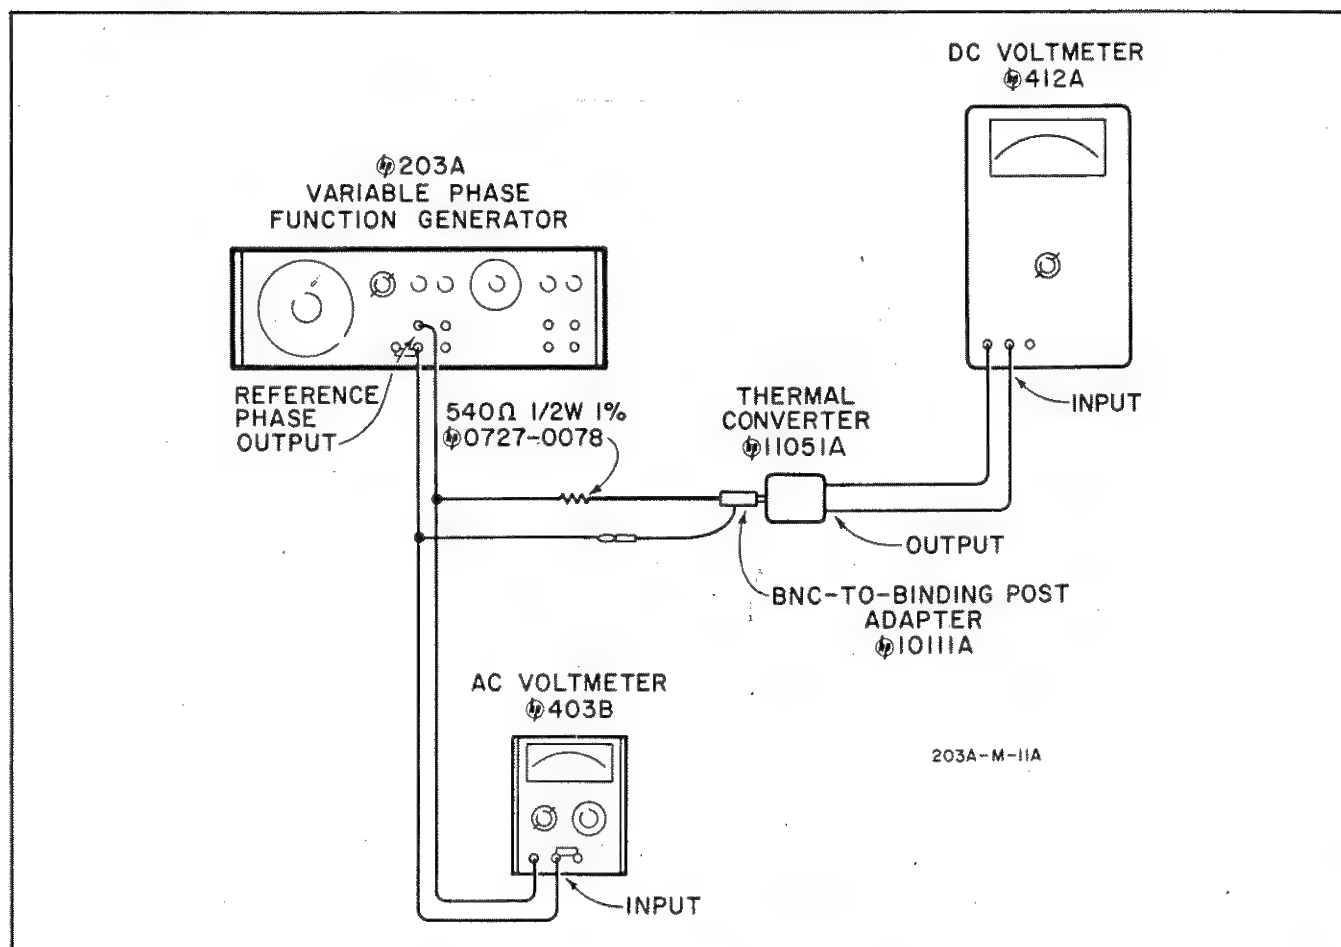

Figure 5-2. Frequency Response
- b. Connect Model 203A as shown in figure 5-2, using very short leads between the Model 203A and Thermal Converter.